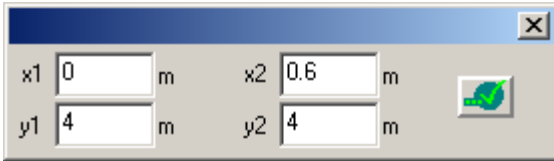

Figure 1.5.3 Dialog box to define coordinates of two nodes
- ⇒ In another window (see Fig.1.5.3), define the following parameters: